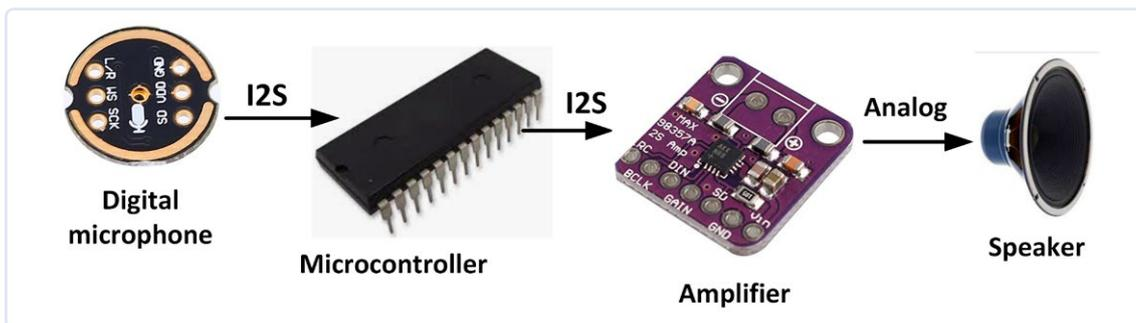

Figure 2: Digital audio DSP system.
**Figure 2** shows the block diagram of a digital audio DSP system using the I2S bus interface. Here, a digital microphone is used, compatible with the I2S bus. The output of the microphone, which is a digital signal, is fed to the microcontroller's I2S bus input. The signal is processed by the microcontroller as required and is sent in digital form to an I2S compatible amplifier module. The output of the amplifier is an analog signal which drives the speaker.